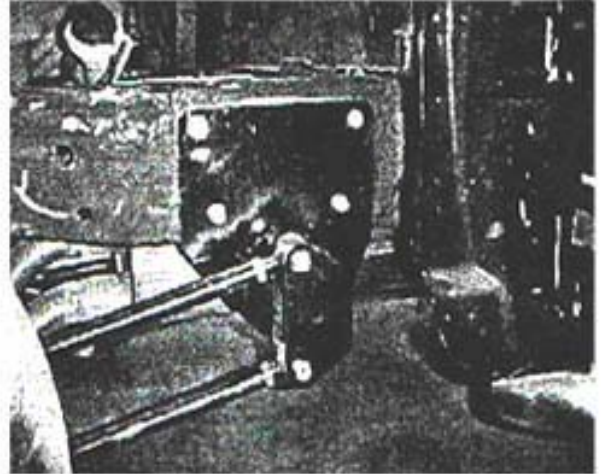

Figure 2
8. Install the forward 4-link brackets where the forward leaf spring brackets were (using the existing rivet holes left empty in step 7) with the supplied hardware, eight  $\frac{1}{2}$ " x  $1\frac{1}{4}$ " bolts, eight  $\frac{1}{2}$ " flat washers (place between the frame and the nuts) and eight  $\frac{1}{2}$ " locking nuts. Figure 2.